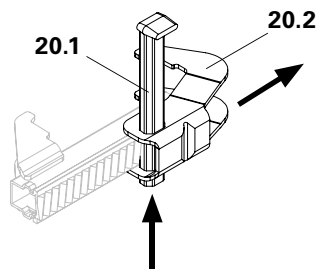
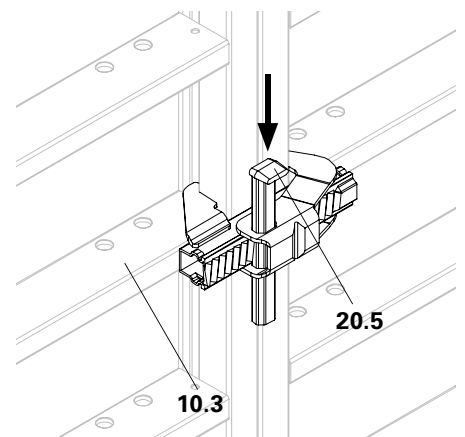

Fig. A4.03
Fig. A4.04
1. Place wedge (20.1) in upper end position. (Fig. A4.03)
3. Place Alignment Coupler BFD (20) on the panel strut (10.3).
5. Secure wedge. (Fig. A4.04)
- The Alignment Coupler BFD (20) is now mounted.